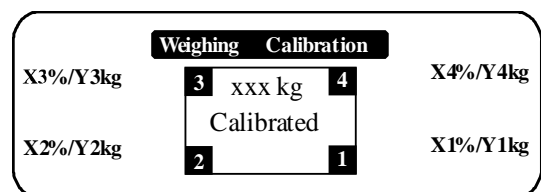

Figure 7
- Check and if necessary adjust the height of the load sensor feet so that an even load distribution among all the load sensors is ensured - see Figure 7.